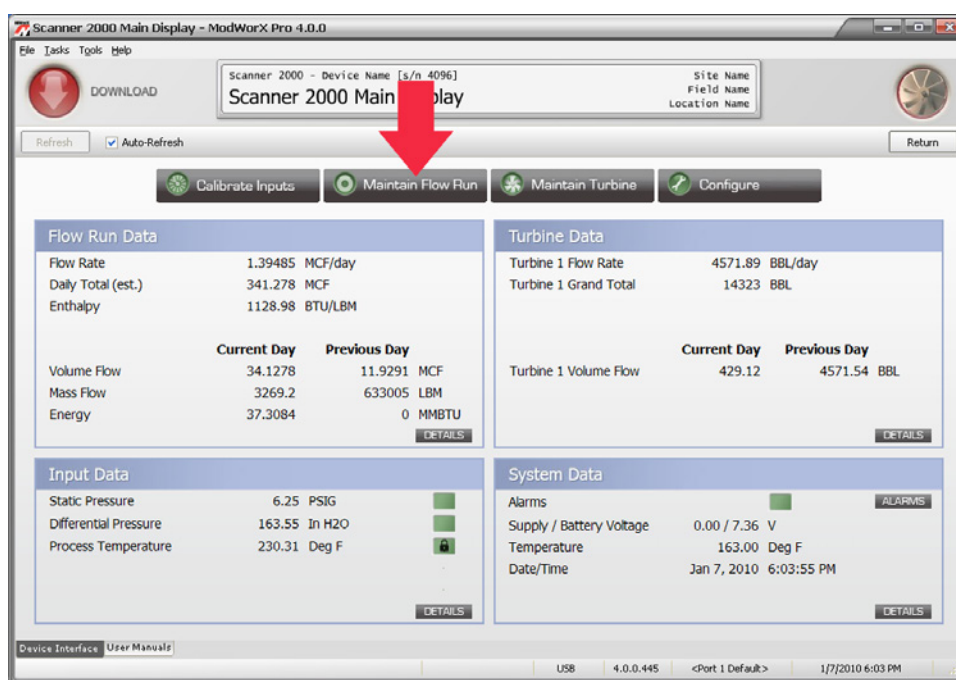

Figure 12.1
1. Click on the **Maintain Flow Run** button in the task menu bar on the Main Display screen (Figure 12.1).